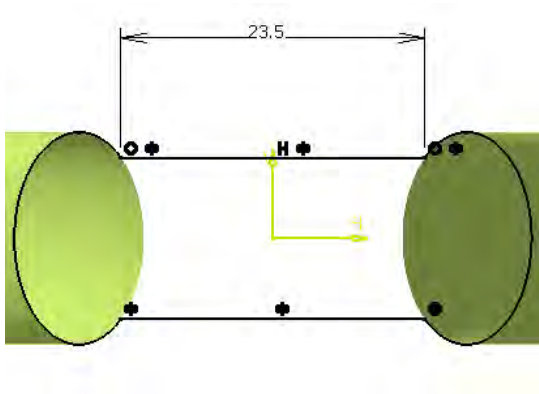

Figure 9-65 The first section for creating the multisection surface
- e. Create the multisection lofted surface, refer to Figures 9-65 through 9-68.
3. Complete the sketch, as shown in Figure 9-65, and exit the **Sketcher** workbench.